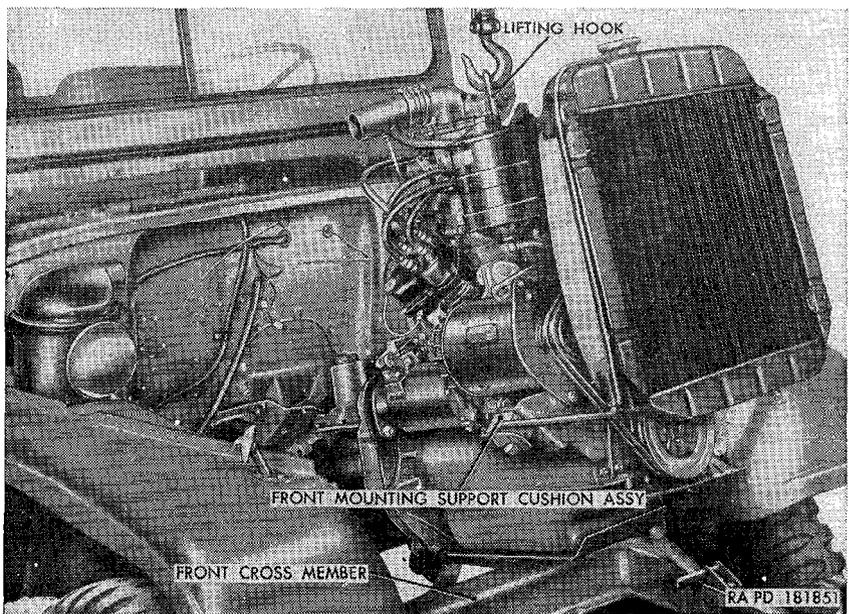

Figure 59. Lifting power plant from vehicle.
- (6) Place a jack under the clutch bell housing to support the power plant rear end. Unscrew the two nuts (S) from the bolts on the right and left side of the vehicle, remove the lockwashers, the engine rear support cross member (Q) with the skid plate (J) and the bolts.
f. *Lifting Power Plant From Vehicle* (fig. 59).
a. *Lowering Power Plant Into Vehicle* (fig. 59).